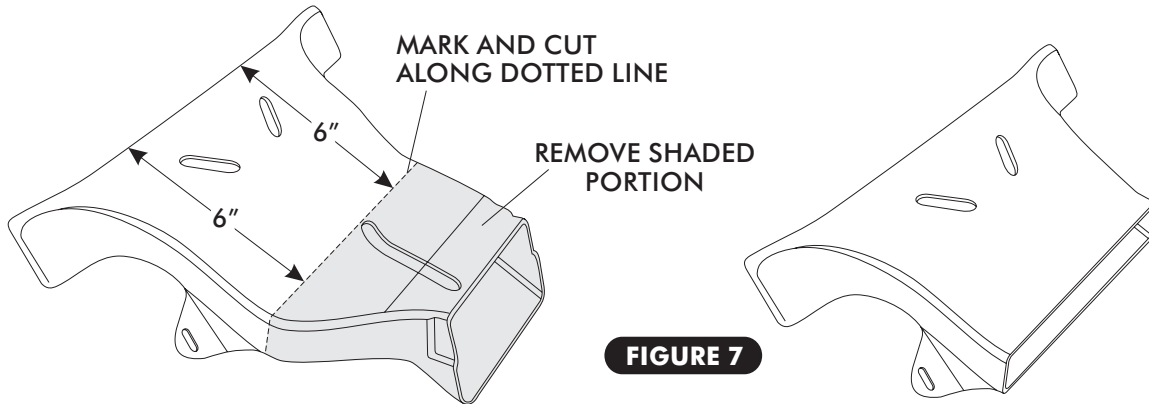

FIGURE 7
- ☐ MEASURE 6" FROM THE TOP OF THE DEFROST DUCT AND MARK AS SHOWN IN FIGURE 7 BELOW. CUT OFF THE BOTTOM PORTION OF THE DEFROST DUCT AS SHOWN.